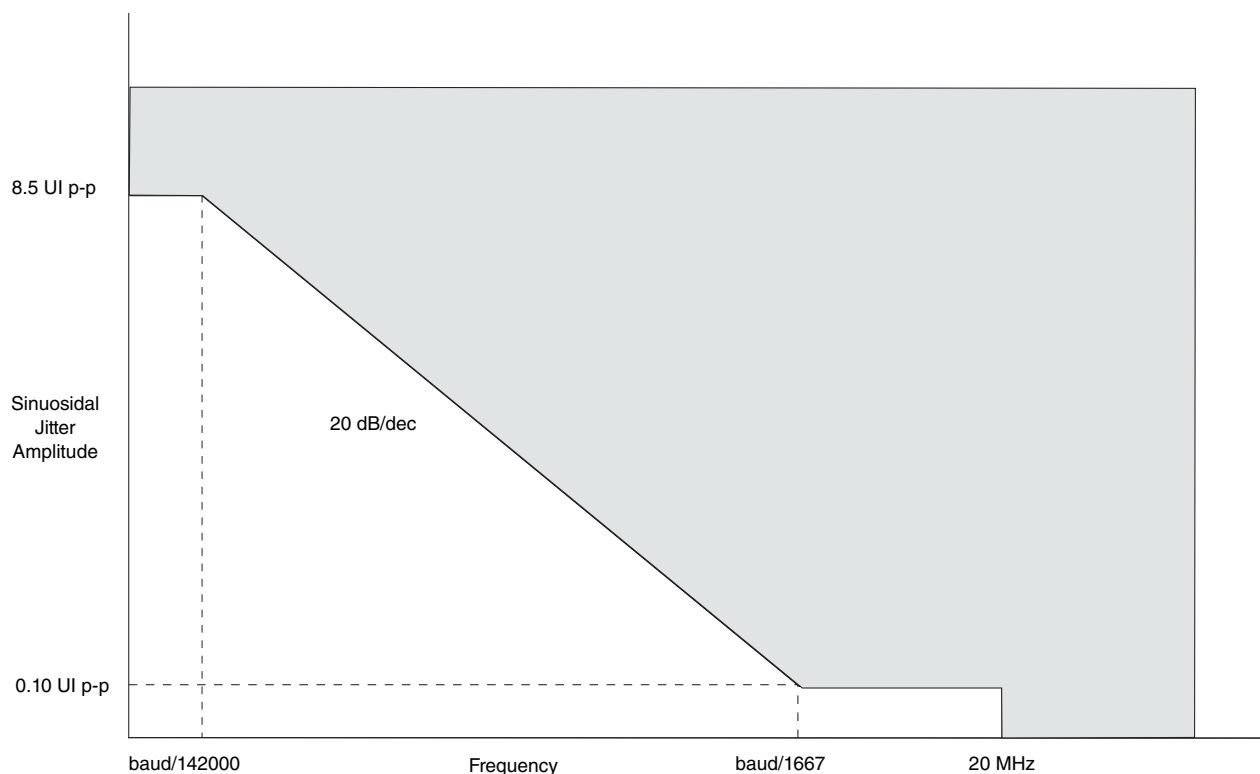

Figure 42. Single-frequency sinusoidal jitter limits
2. Total jitter is composed of three components: deterministic jitter, random jitter and single frequency sinusoidal jitter. The sinusoidal jitter may have any amplitude and frequency in the unshaded region of Figure 42 . The sinusoidal jitter component is included to ensure margin for low-frequency jitter, wander, noise, crosstalk, and other variable system effects.